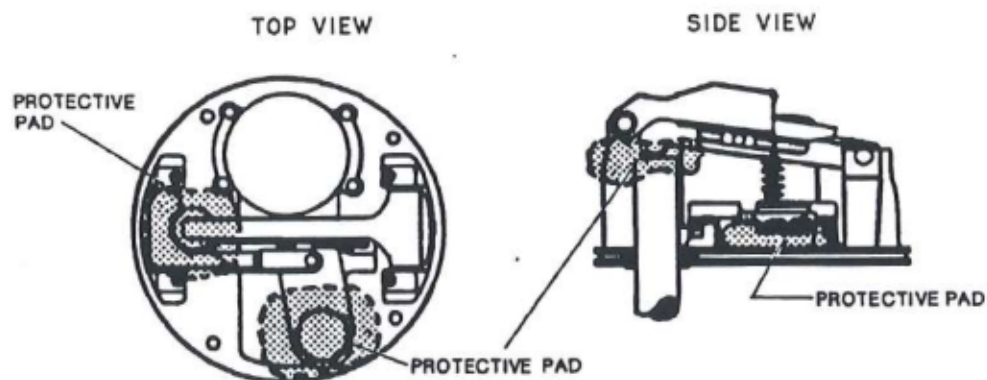

Figure 1-1 Location of Protective Pads
- 1). Remove the control cover, the electrical cover, and protective pads (see Figure 1-1).
- (c). Place the second pad between the end of the shaft and the arm assembly of the control plate (see Figure 1-1).